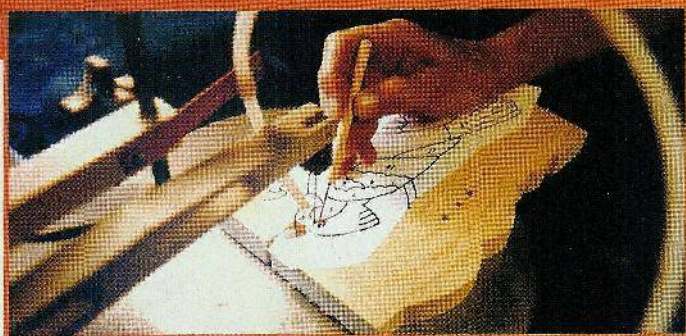

Fig. 7. A small finishing nail attached to a dowel is helpful for poking out small cutouts.
**Cut the pieces**—Begin cutting out the pieces on the scroll saw. Have a small box handy into which you can put the pieces as you cut them out. Cut the small inside pieces first. This will give you some stock to hold onto during the cutting process (see **Fig. 5**). It will also allow you to make the accent cuts on the dogwood petals with ease (see **Fig. 6**). As shown in **Fig. 7**, a dowel with a small finishing nail attached will help you "poke" the small pieces up or down so they can be retrieved. Cut the leaves out whole. After they have been shaped they can be cut in half on the band saw or scroll saw.